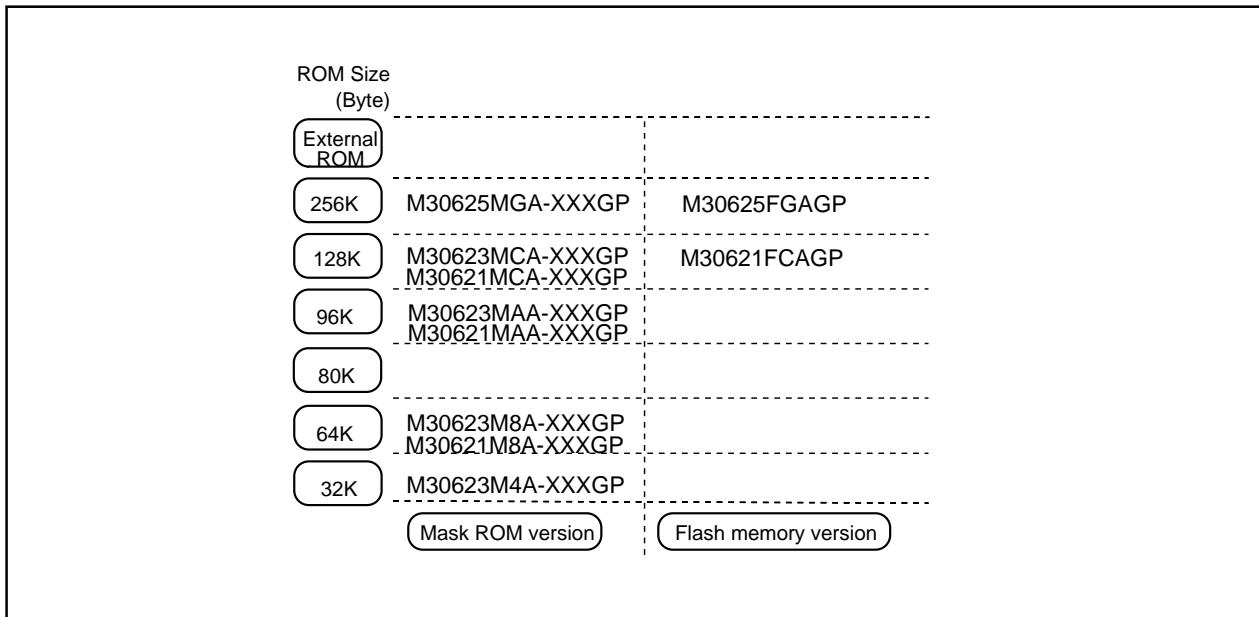

Figure 1.1.3. ROM expansion
- Memory capacity .....ROM (See Figure 1.1.3. ROM Expansion)